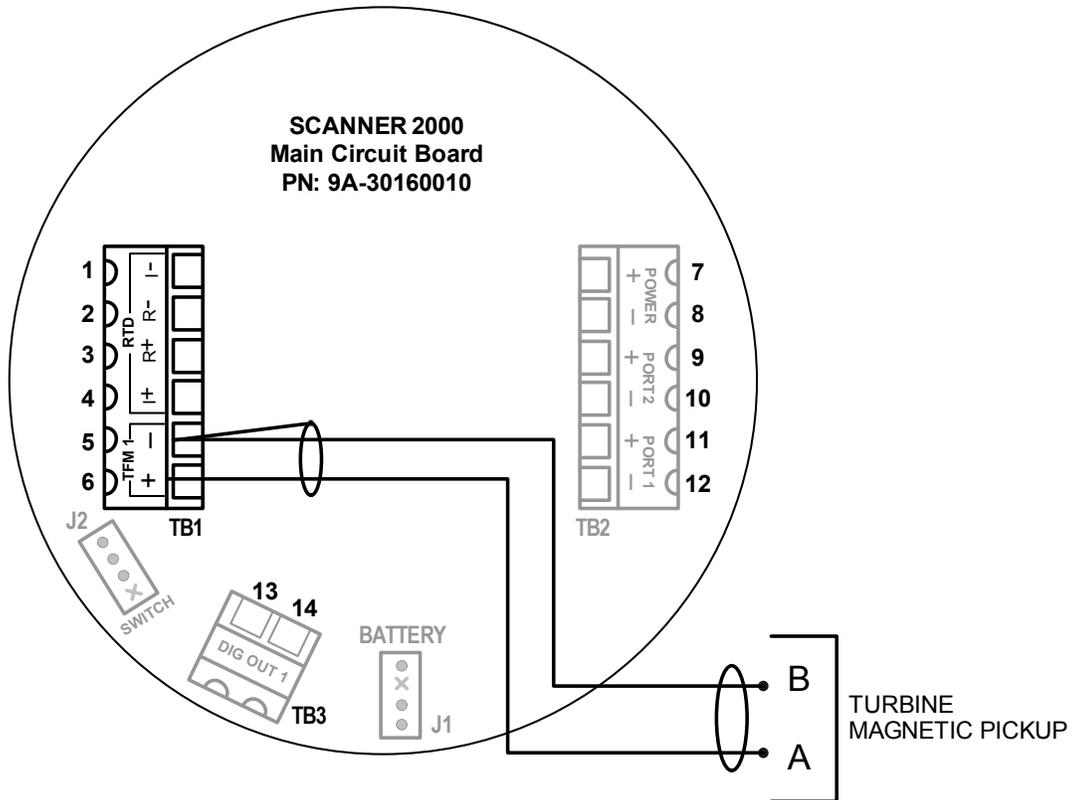

Figure 3.4 - Flowmeter input wiring
6. Connect the flowmeter input wiring to terminal block TB2, if appropriate. See Figure 3.4, page 63.
The Turbine Input 1 on the main circuit board provides the turbine flowmeter input signal generated by a magnetic pickup, enabling the Scanner 2000 to calculate and display instantaneous flow rates and accumulated totals. Wire as shown in Figure 3.4.